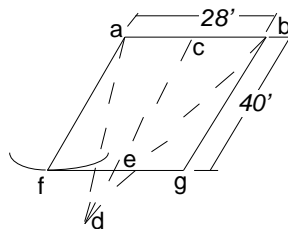

Fig. 4. Socket layout.
- c. Locate the ground sockets by any means desired: using a 4' carpenter's square, 3-4-5 right triangles measured with a tape, or by the scheme shown in Fig. 4, for Hangar 1, consisting of:
- (1) Set spikes or other markers at a and b, 28' apart, and at mid point c.
- (2) Stretch a long cord between spikes a and b, setting spike d at its knotted midpoint.
- (3) Measure 40' along c-d to set spike e.
- (4) Swing a 40' arc about spike a and measure 14' from e to set spike f at their intersection.
- (5) Extend line f-e 14' to set spike g.